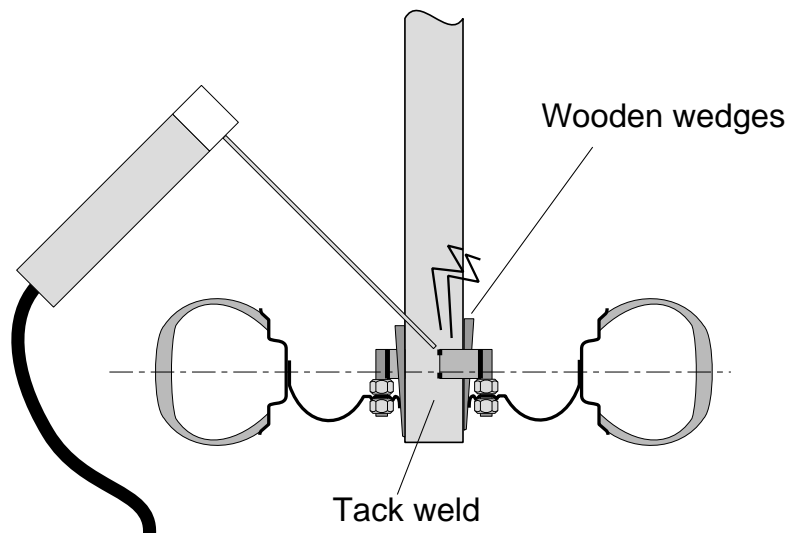

Figure 9: tyre, wheel and axle tube during tack welding stud support struts
- 5) Once you have it in position, tack weld the ends of the struts to the axle tube as shown in Figure 9, then weld the struts on properly. Do as much welding as you can without